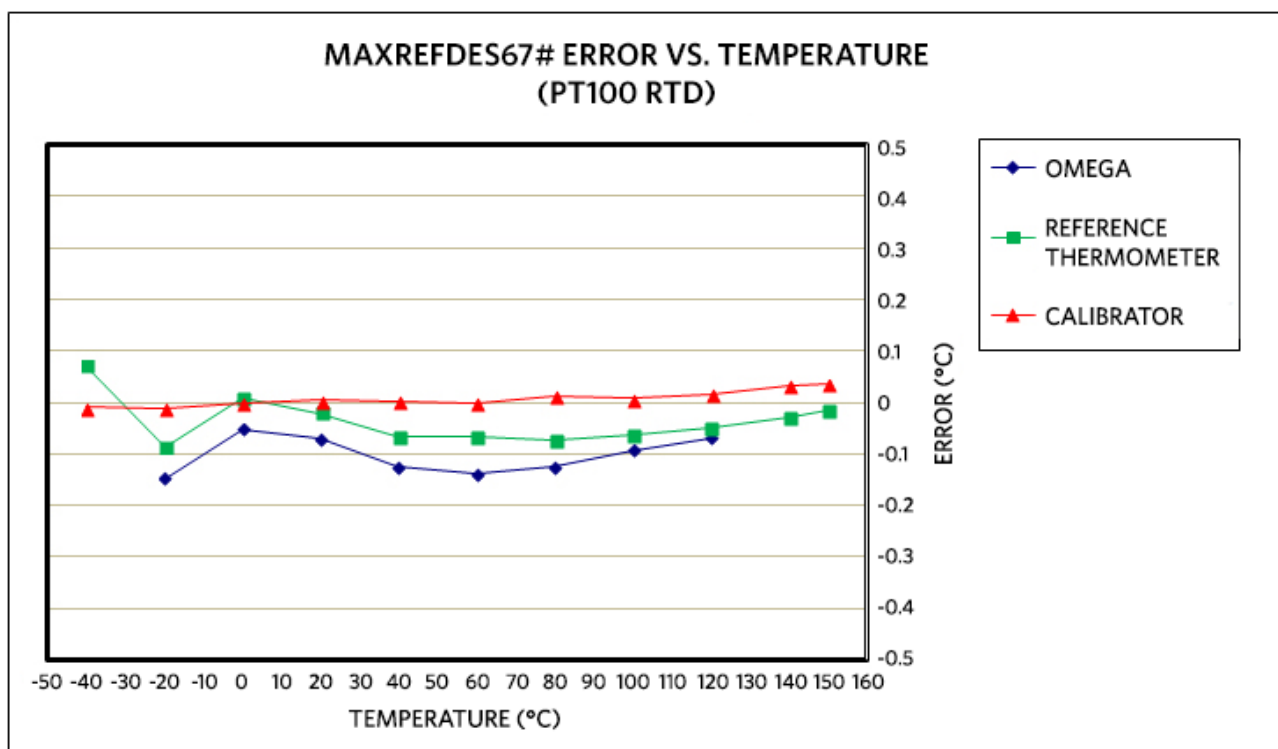

Figure 10. MAXREFDES67# error vs. temperature, using an Omega P-M-1/10-1/4-6-0-G-3, 4-wire RTD calibrated at 20°C.
**Figure 10** shows the temperature error measured by the MAXREFDES67# RTD input versus temperature referenced to three different thermometers. The references are the Omega HH41 thermometer, the ETI reference thermometer, and Fluke 724 temperature calibrator, respectively. The MAXREFDES67# connected RTD probe (Omega P-M-1/10-1/4-6-0-G-3) was placed in the Fluke 7341 calibration bath and calibrated at 20°C.
For both Figure 10 and 11, the blue data used the Omega HH41 thermometer as a reference. The green data used the ETI reference thermometer as a reference. The red data used the Fluke 724 temperature calibrator as the reference.